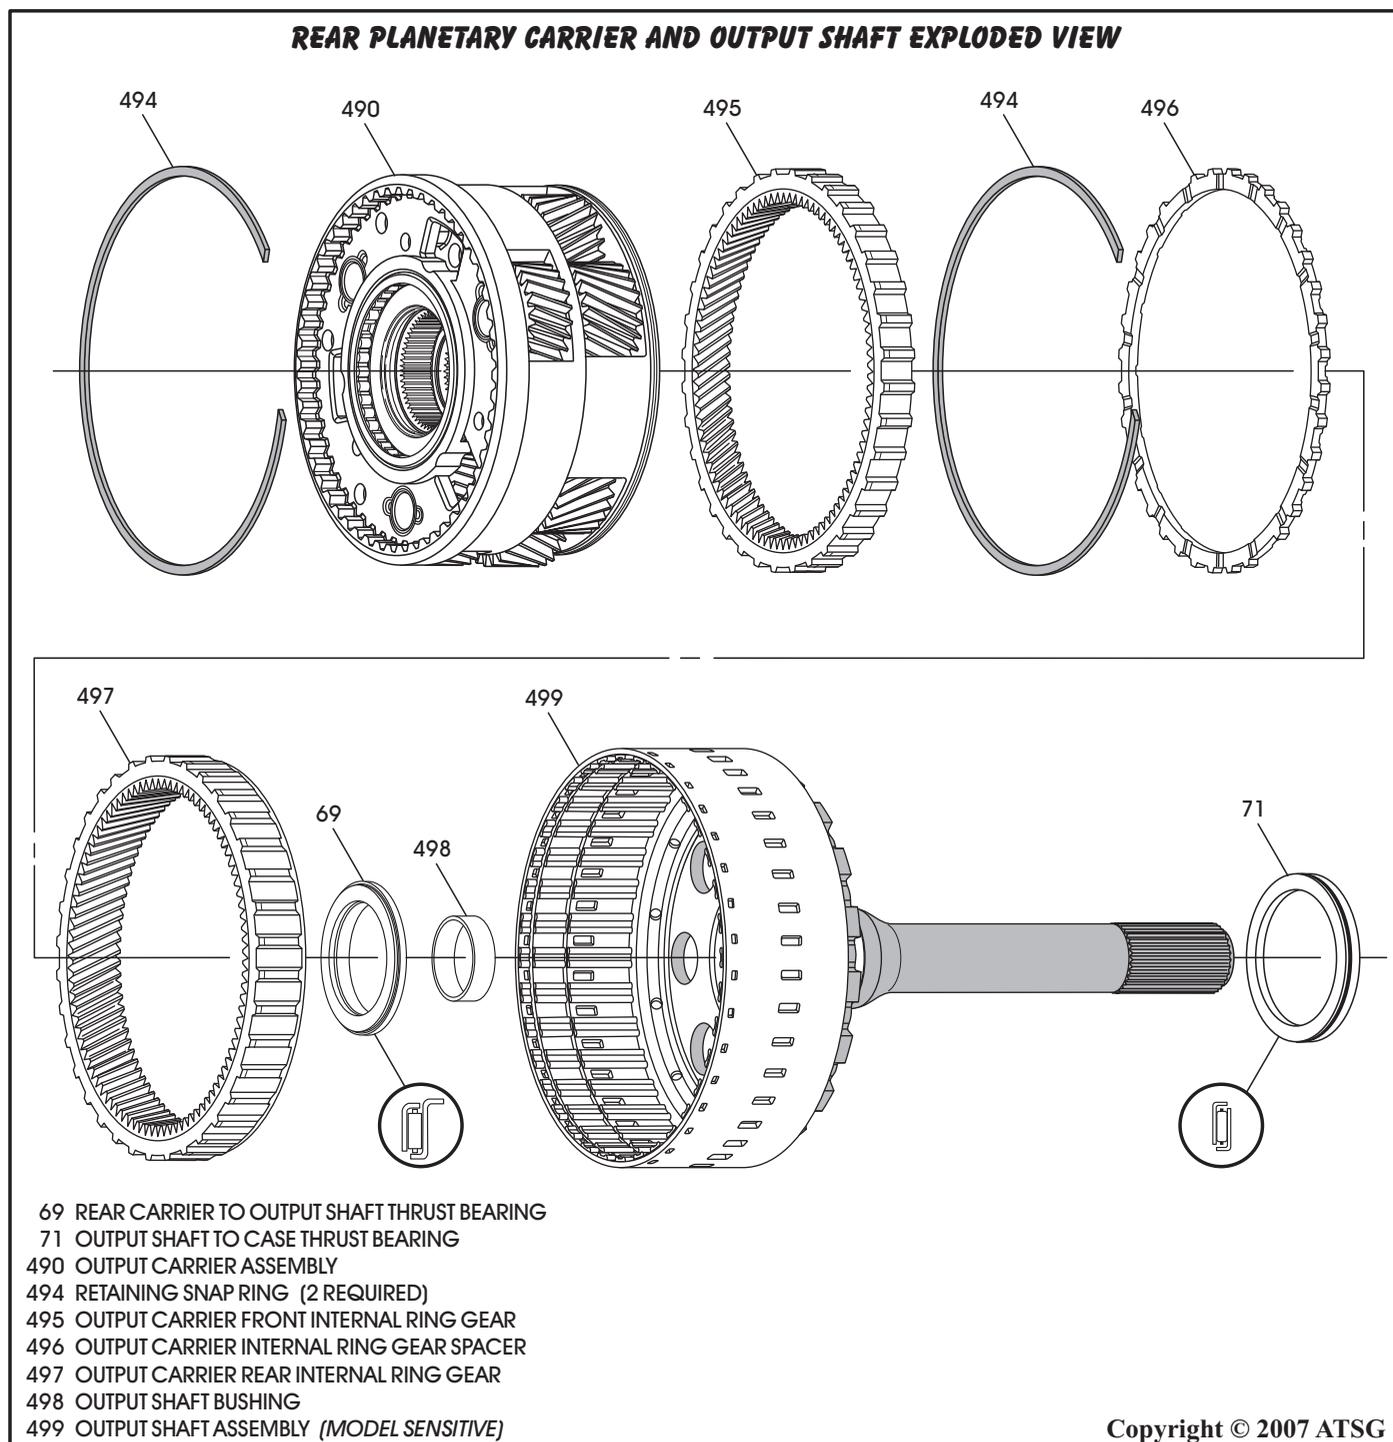

Figure 122
1. Disassemble the output shaft assembly using Figure 122 as a guide.